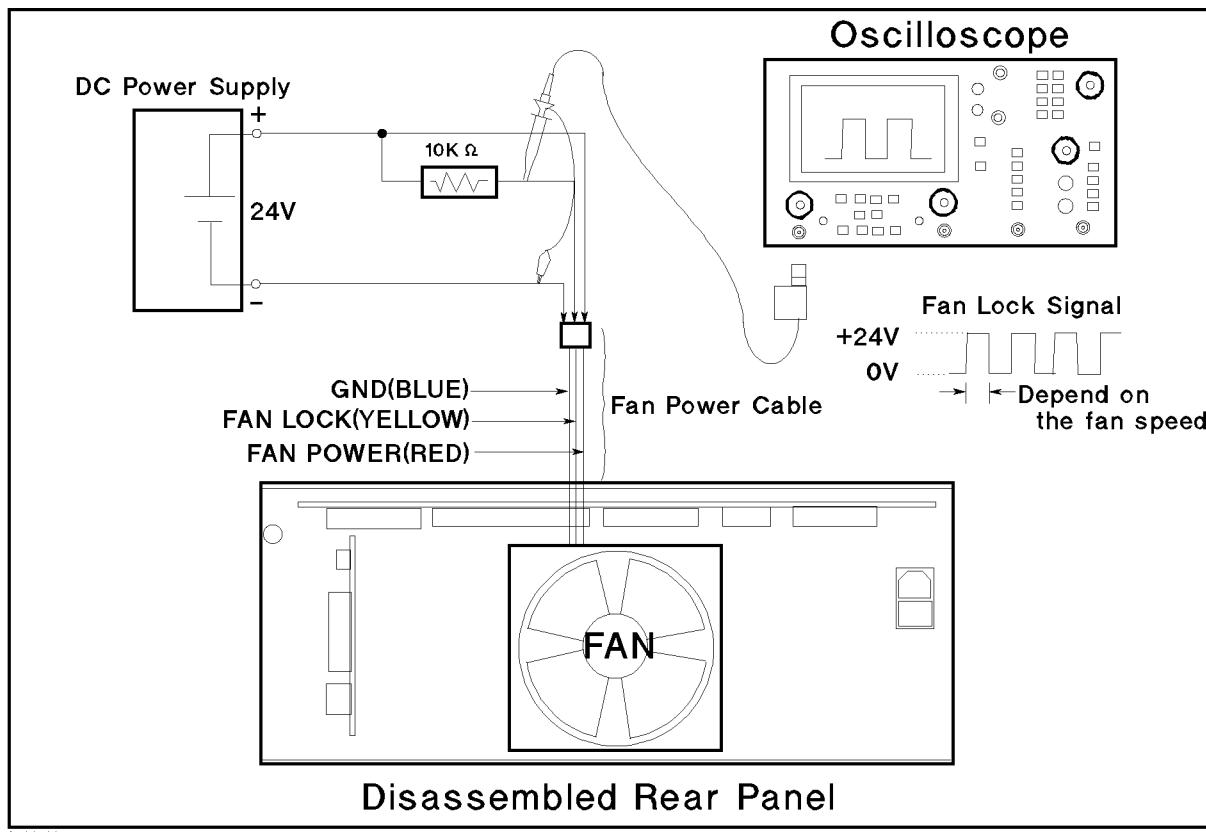

Figure 5-9. Fan Troubleshooting Setup
- d. Connect a DC power supply, a $10\text{ k}\Omega$ resistance, and a oscilloscope to the fan power cable using appropriate wires as shown in Figure 5-9.
- f. Check the fan is rotating. Check the FAN LOCK signal is as shown in Figure 5-9.